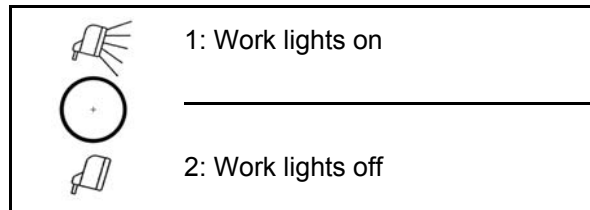

Fig. 105
9. Put the **Work lights** operating lever (Fig. 105) to switch position "1".